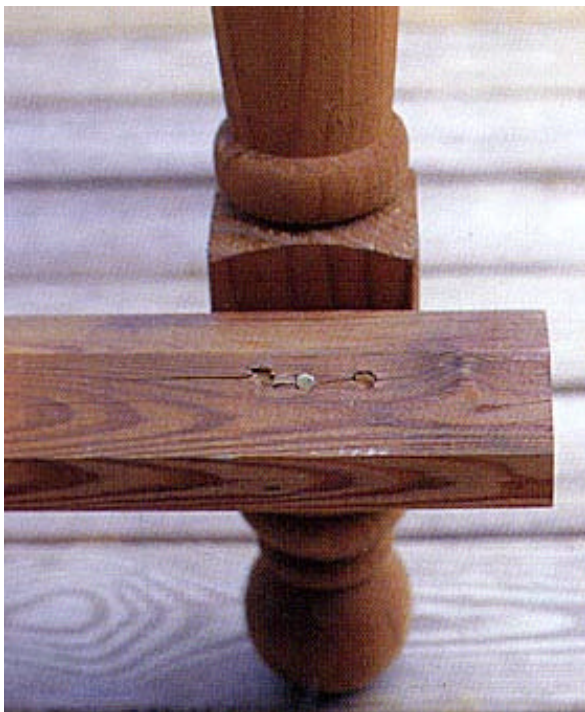

Figure 8
3. Cut one Front Trim (J) from 2 x 4 pine, measuring 51-1/8 inches. An optional step at this point is to bevel the edge of the trim at a 30-degree angle. The corners are also mitered at opposing 45-degree angles, as shown in *Figure 8*.